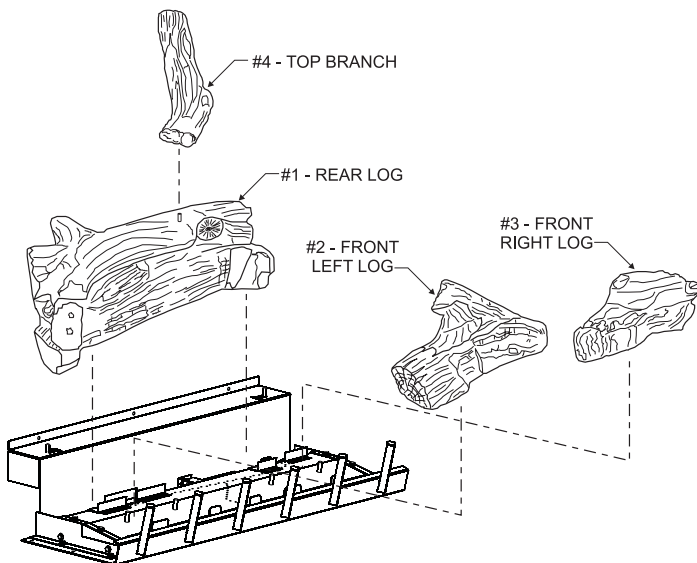
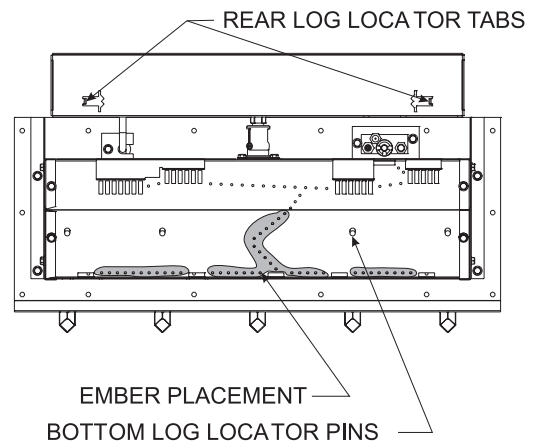

Figure 69
Figure 70
The positioning of logs is critical to safe and clean operation of this fireplace. Sooting and other problems may result if the logs are not properly and firmly positioned in the firebox. Please refer to **Figure 69**, **Figure 70**, and **Figure 71** and corresponding **WARNING**, when completing the following log placement steps.
2. After all logs are properly positioned, place small "dime" size pieces of Rockwool lightly across the front round "blueflame" ports. Place the ember material (Rockwool pieces) side by side. Do not stack more than one layer of embers across the burner ports. **See Figure 69.**